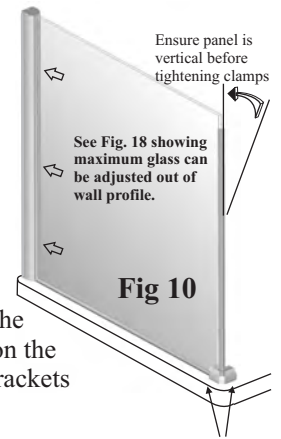
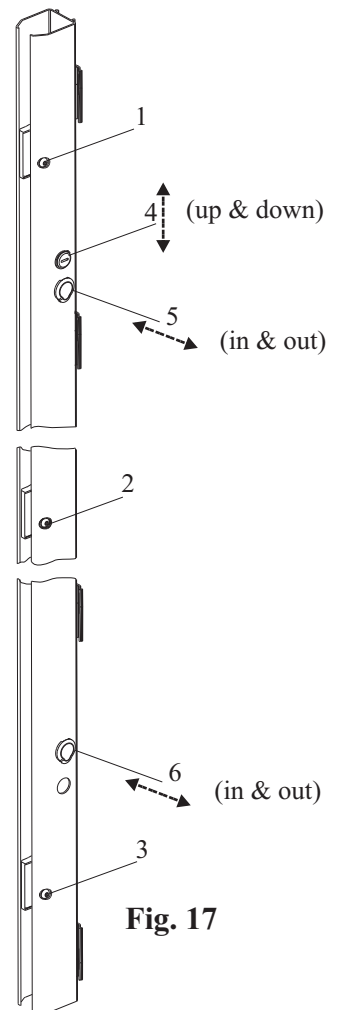

Fig 10
Fig 17
4.2 Insert large side panels into wall profile glass clamps (see Fig.10) with the soft seal onto the tray and the fitted corner bracket to the front. Move the panels in or out until the corner brackets are spaced an equal distance from the front edge of the tray and the side face of the tray. Ensure the panels are vertical then fully tighten the 6 glass clamp screws using 2.5mm allen key supplied see Fig 17. If after adjusting for vertical, the corner brackets are not seated firmly on the tray, loosen grub screws and tap the brackets down onto the tray (caution - do not exceed 5mm adjustment on this bracket) Pack between bracket and tray if you require more adjustment.